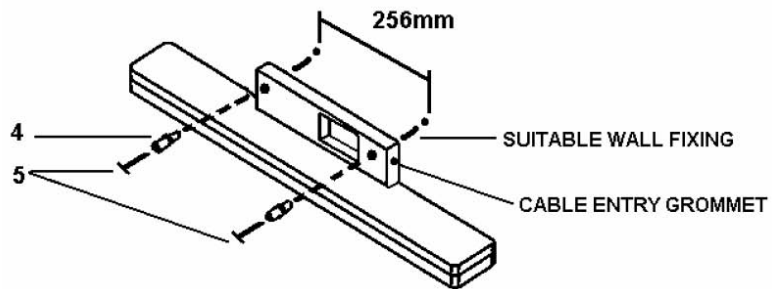

Fig.3
7. Insert the narrow end of the two cylindrical plastic spacers (4) in to the two holes of the back plate (Fig.3)
8. Insert the screws (5) in to the spacers and screw firmly to the wall